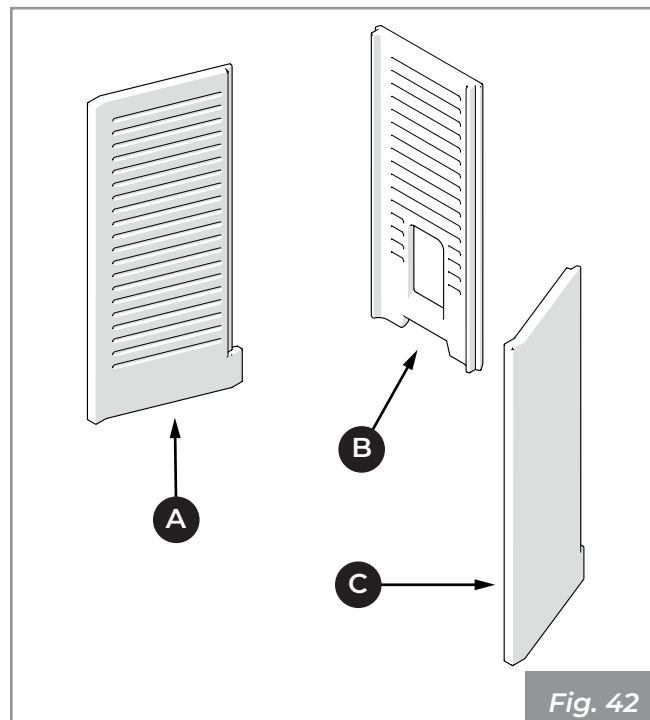

Fig. 42
The refractory walls are: one left (A), one bottom (B) and one right (C) (Fig. 42).